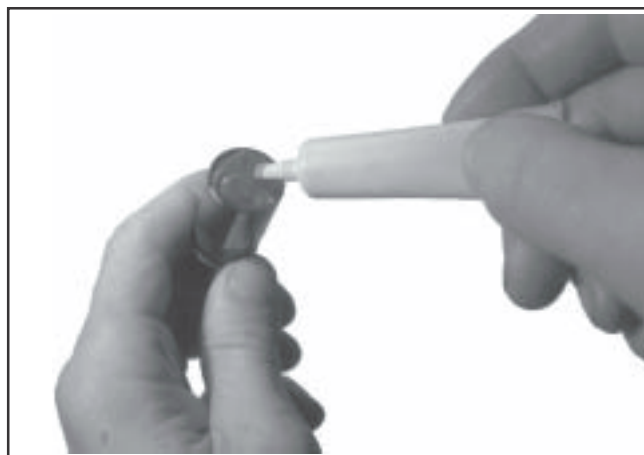

Figure 11-11a. Applying Camshaft Lubricant to Bottom of Lifters.
2. Apply camshaft lubricant (Kohler Part No. 25 357 14-S) to the bottom surface of each lifter. See Figure 11-11a. Lubricate the hydraulic lifters and the lifter bores in the crankcase with engine oil.